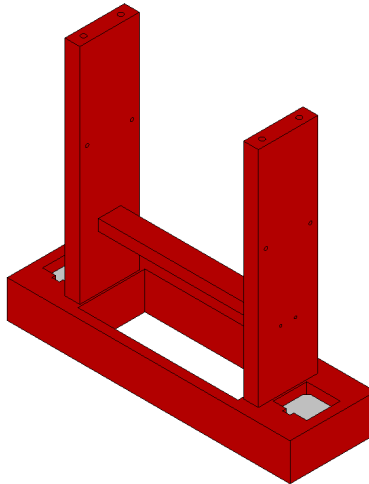

Figure 26: *Antennae mount*, *auxiliary strut* and the *side panel* elements of the VNA holder assembly.
4. focus on the *auxiliary strut*. The *auxiliary strut* has four holes at its lateral sides. These holes are intended for M3 inserts. Heat four (4) M3 inserts using a heat gun or a soldering iron. Place the inserts into their respective holes. Allow the inserts to cool down before proceeding. Attach the *auxiliary strut* to the *side panel* elements using four (4) M3 screws. The assembly is shown on figure 26.